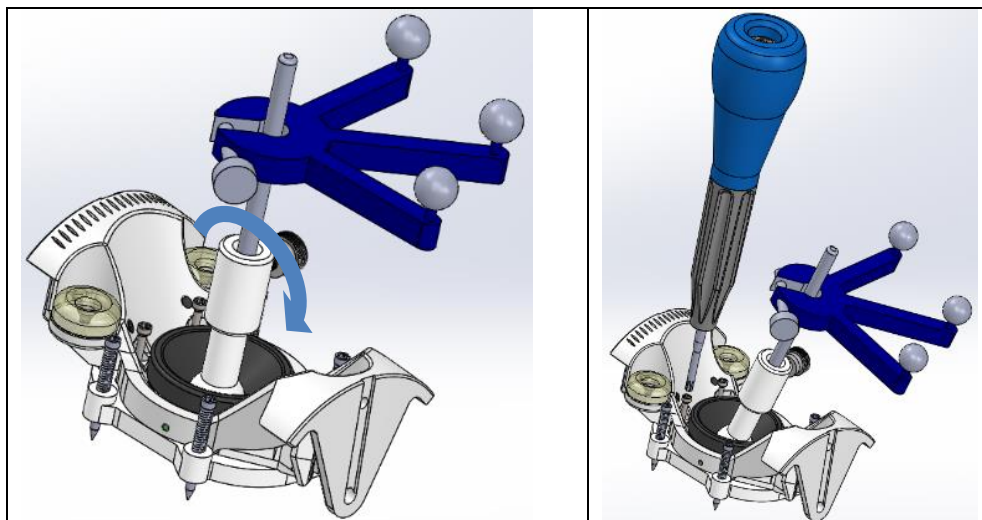

Figure 5: Entry Point Locator Stem being pivoted to make access to screws easier. Universal tracker is shown, but Probe may also be used.
7. Begin securing the Bone Screws to the skull through the scalp. Refer to **Section D** for detailed instructions for securing the Scalp Mount Base to the Skull. The Entry Point Locator stem may be moved out of the way for easier access to the screws. **See Figure 5.**